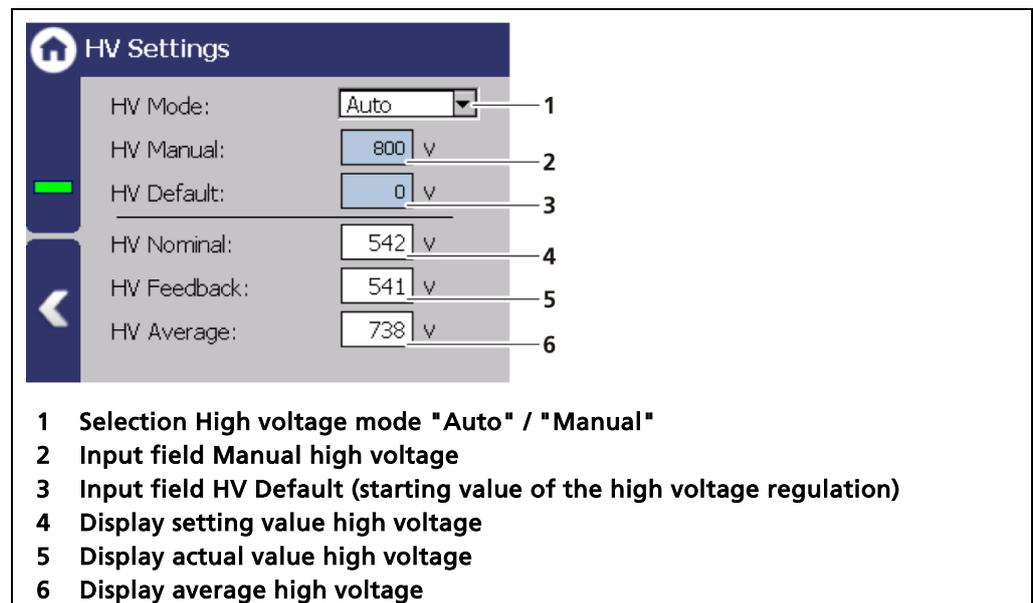

Fig. 71 Overview HV settings
1. Click on the selection arrow (Fig. 71, item 1) in order to set the desired HV mode (auto or manual).
- ▶ **MANUAL:** The high voltage is maintained at a fixed, user-entered value (Fig. 71, item 2).
2. Click in the input field "HV Default" (Fig. 71, item 3) to open the input field.